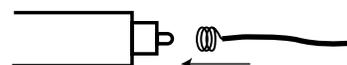

Figure 2.
2. Curl the 1.5 cm end of bare wire around a pencil to make a small, tight coil. Insert the coil around the metal post in the center of the piezoelectric igniter (Figure 2).